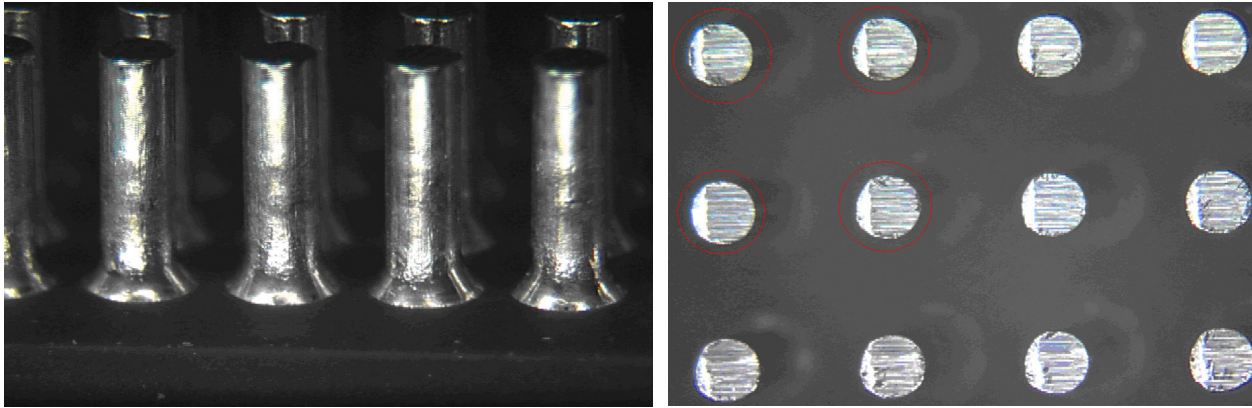
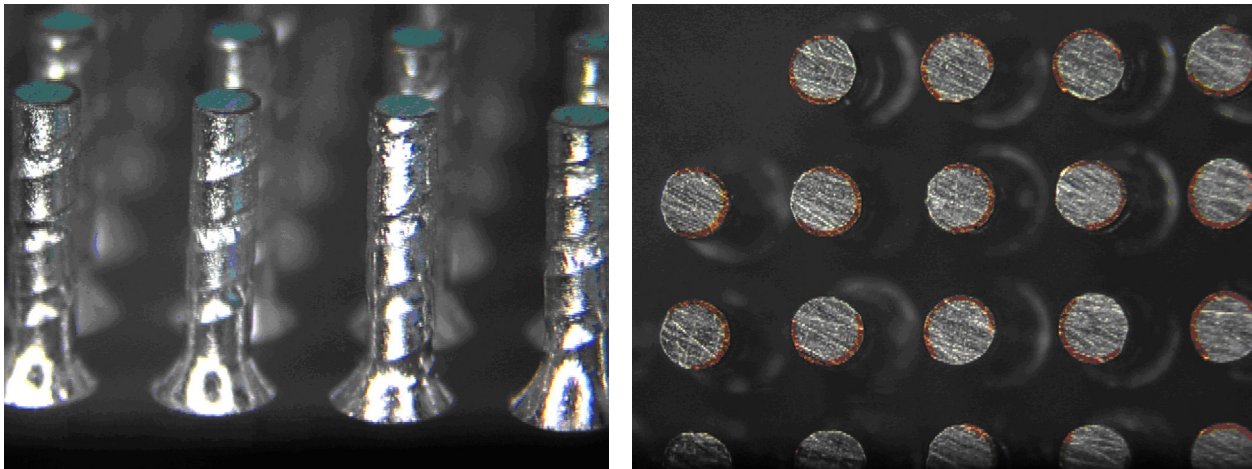
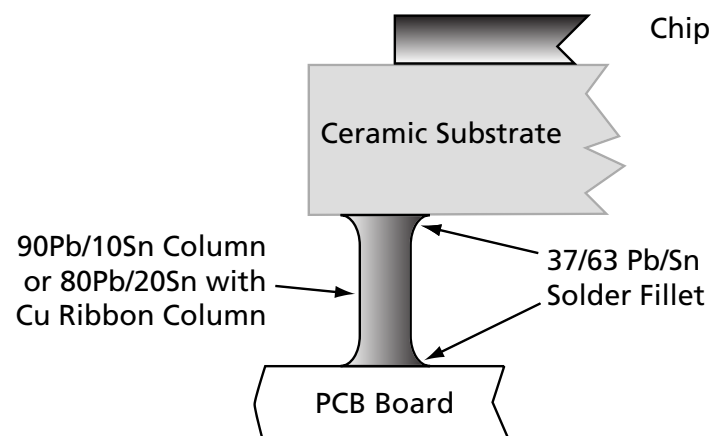

Figure 4 • 90Pb/10Sn Column Side View and Tip View, with 20 mils Diameter
Figure 5 • Change to 80Pb/20Sn Column Side View and Tip View, with 20 mils Diameter
Figure 6 • CCGA on PCB
2. The solder column is either 90 Pb/10 Sn or 80 Pb/20 Sn, with a copper ribbon (refer to Figure 4 and Figure 5 on page 3) attached to the ceramic substrate I/O pads via eutectic 37/63 Pb/Sn, forming a eutectic solder joint. Please see Figure 6 on page 3 for more details.